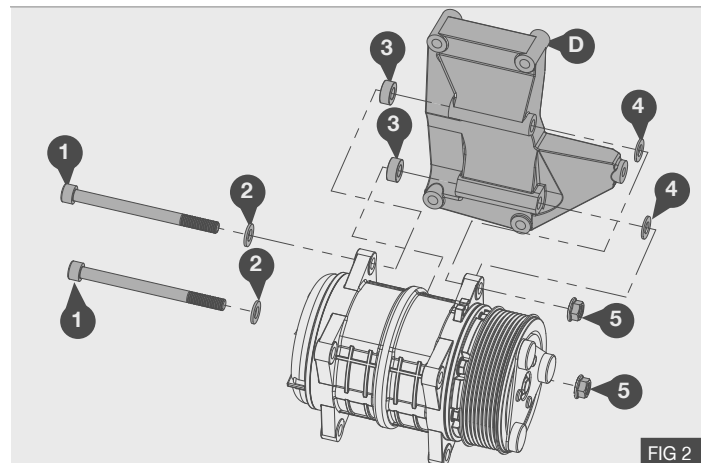

FIG 2
1. Install the compressor to the mount bracket (D) using M10 x 130 bolts (1) fitted with 2mm thick washers (2). Place the 8.4mm spacers (3) between the rear compressor ears and the bracket, Insert the 1.6mm spacers (4) between the front compressor ears and the mount bracket (See note below) – Fig 2 .
2. Fit nut (5) to the compressor securing bolts (1) - Fig 2
3. Torque the 2x bolts (1) to 63 Nm / 46 lb ft using a calibrated torque wrench – Fig 2.